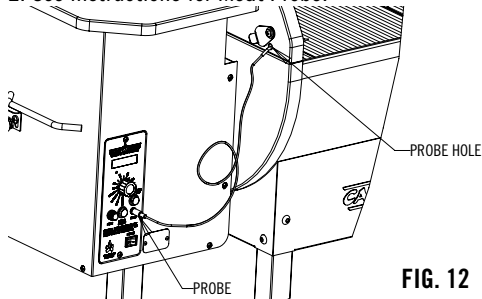

FIG. 12
1. Plug the Meat Probe into the Probe receptacle on the control panel. Run the probe and wire through the probe access hole on the side of the grill. See Fig 12.